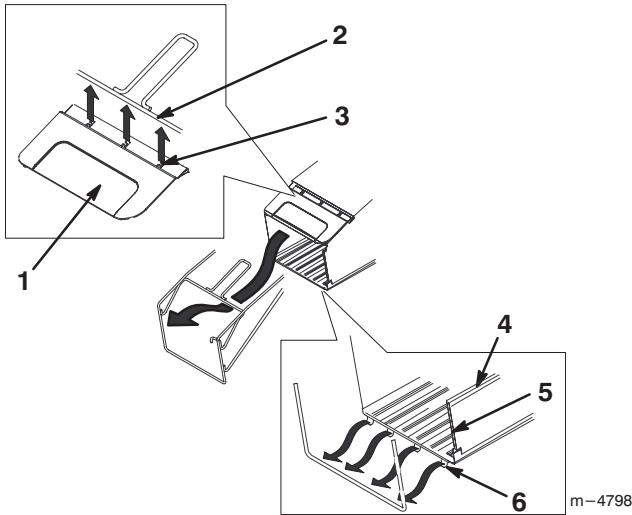

Figure 6
3. Snap the top frame bar into the three snap fittings on the bag cover as shown in Figure 6.
1. Bag cover	4. Top channel (2)
2. Top frame bar	5. Side channel (2)
3. Bag cover snap fitting (3)	6. Bag base snap fitting (4)
4. Insert the two side channels and two top channels of the grass bag onto the grass bag frame as shown in Figure 6.
5. Snap the bottom frame bar into the four snap fittings on the bag base as shown in Figure 6.